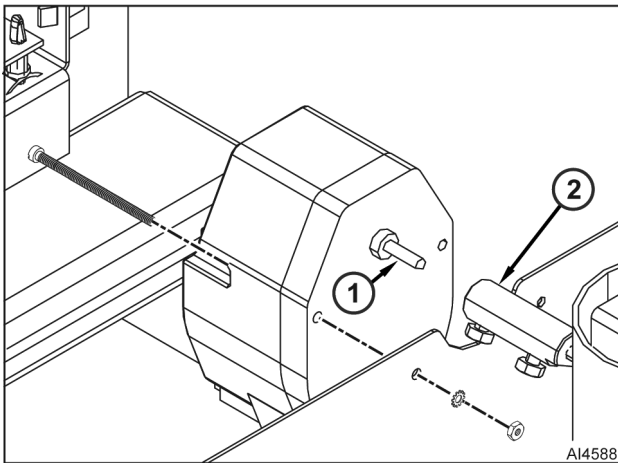

Fig. 29
3. Loosen bolt that secures coupling (2, Fig. 29) to vent motor shaft (1).